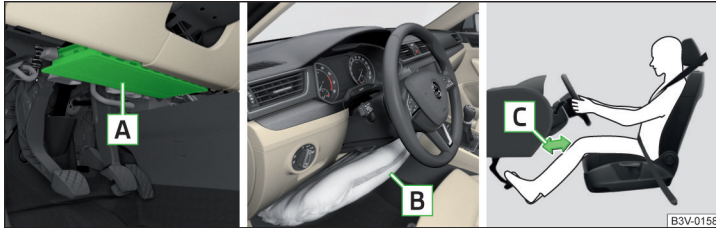

Fig. 10 Installation of the airbag / Gas-filled Airbag / Safe distance between the legs and the instrument panel
The driver's knee airbag **A** is located in the lower part of the dash panel below the steering column » Fig. 10.
- Adjust the driver's seat in a forward/back direction so that there is a gap of at least 10 cm between the legs **C** and the instrument panel in the vicinity of the knee airbag » Fig. 10. If it is not possible to meet this requirement due to your body size, visit a specialist garage.